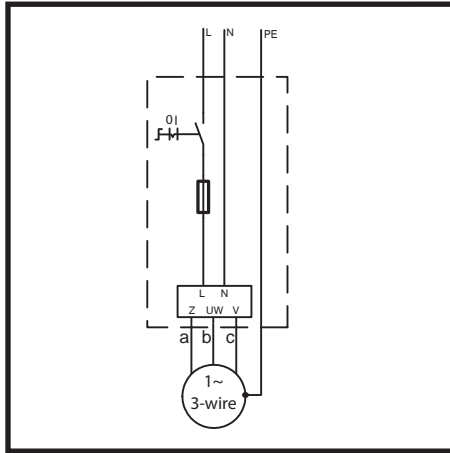

Fig.: 17
3. Super Stainless 3-wire connection (fig. 17)